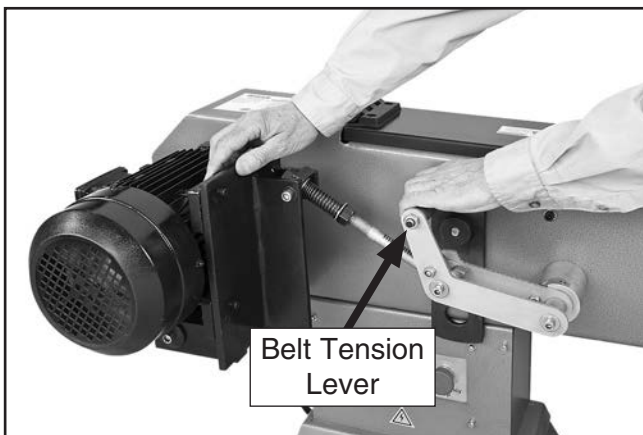

Figure 19. Releasing abrasive belt tension.
2. Pull belt tension lever up and toward front of machine with one hand as you guide motor forward with other hand (see **Figure 19**). This releases abrasive belt tension.